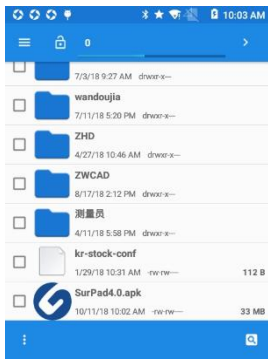
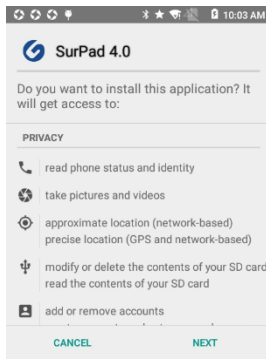
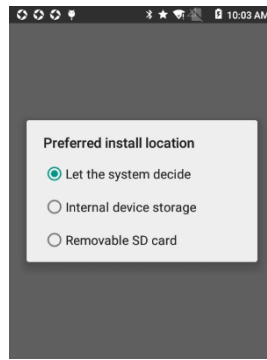
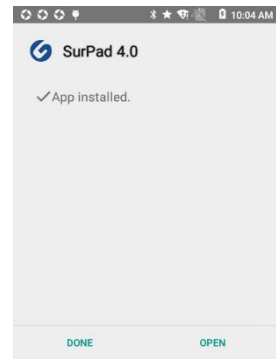

Figure 1.3-1
Figure1.3-2
Figure1.3-3
Figure1.3-4
- (1) Download the Android SurPad4.0 installation package (\*.apk).
(2) Copy the installation package to Android device. Find the installer in File Manager in Android device as shown in Figure 1.3-1. Click the installer and pops up installation dialog box as shown in Figure 1.3-2. Click Install and pops up dialog box for preferred installation location as shown in Figure 1.3-3, and installation completion dialog box will pop up shortly as shown in Figure 1.3-4. Press Done to return to device desktop and press Open to run SurPad software.